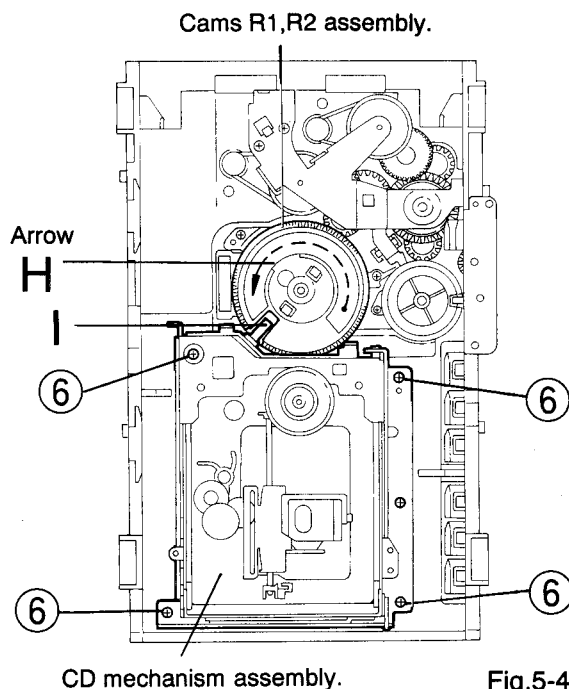

Fig.5-44
**Removing the CD mechanism assembly** (See Fig. 5-44)
1. While turning the cams R1 and R2 assembly in the arrow direction "H", align the shaft "I" of the CD mechanism assembly to the position shown in Fig. 5-44.
2. Remove the four screws ⑥ retaining the CD mechanism assembly (See Fig. 5-44).